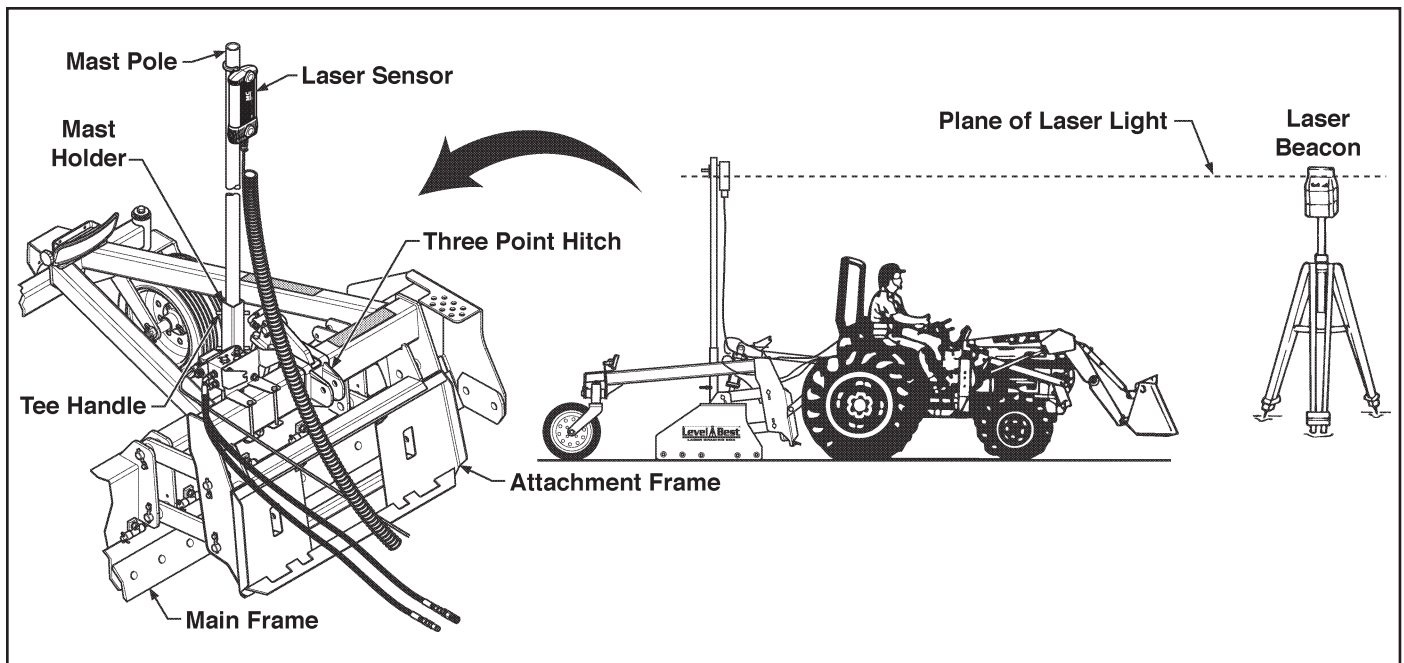

Figure 5. Components of the Automatic Control System on a Tractor
6. Insert the mast pole in the holder until it rests at the bottom of the tube. Tighten the tee handle to secure the mast. Clamp the Laser Sensor near the top of the mast so it is higher than any local obstruction including the tractor cab or fall protection devices. (Refer to Figure 5).